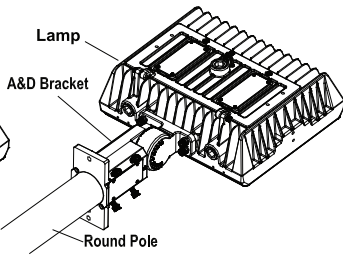

Figure 25
Step 2(for round pole): Loosen the four bolts on A&D bracket, and place the bracket into the pole and lock the four bolts. (Figure 25).